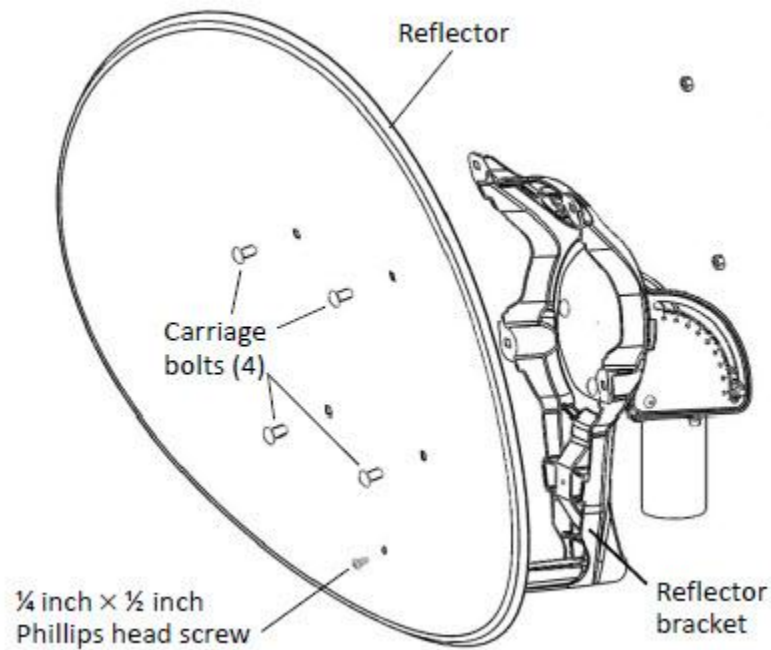

Figure 11: Attaching the antenna reflector
1. Hold the reflector against the reflector bracket so the hole for the Phillips head screw is nearest the bottom, as shown in Figure 11.